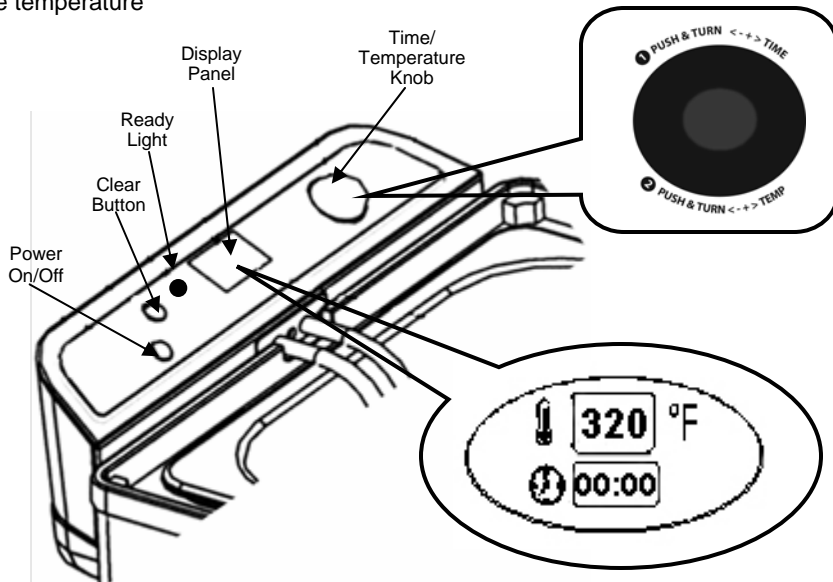

Fig. 6
- Press the power button (Fig. 6) and the unit will beep again. The upper screen display will show 320°F and the lower screen will display __:__. The "Ready Light" will now turn "Red".
indicator is flashing and turn the knob clockwise. When you press the knob, the unit will beep. If you want to lower the temperature, press and turn the knob counter-clockwise. When you press the knob, the unit will beep again. The upper screen will display the temperature that you set. The "Ready Light" will remain "Red" while the oil is heating to desired temperature. (Fig. 6) Once the oil temperature has been reached, the "Ready Light" will turn "Green" again and flash.